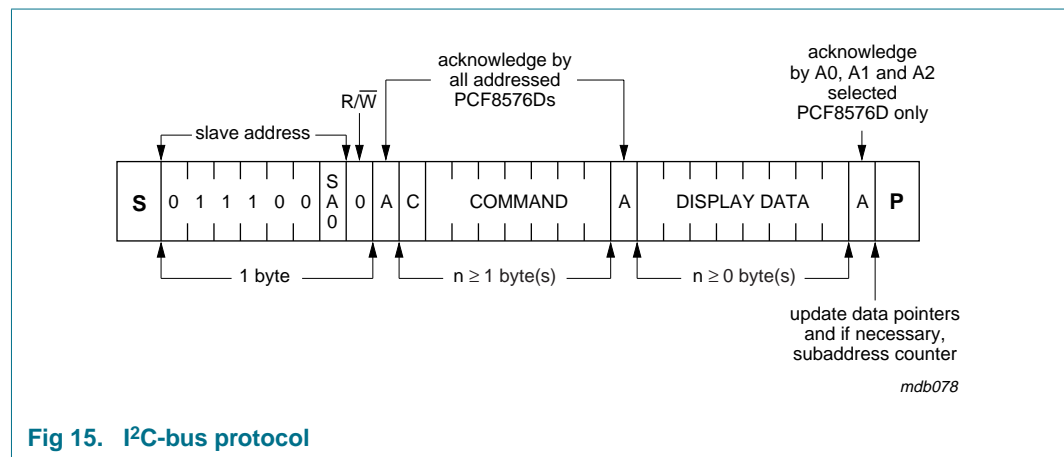

Fig 15. I2C-bus protocol
The I2C-bus protocol is shown in Figure 15. The sequence is initiated with a START condition (S) from the I2C-bus master which is followed by one of two possible PCF8562 slave addresses available. All PCF8562s whose SA0 inputs correspond to bit 0 of the slave address respond by asserting an acknowledge in parallel. This I2C-bus transfer is ignored by all PCF8562s whose SA0 inputs are set to the alternative level.